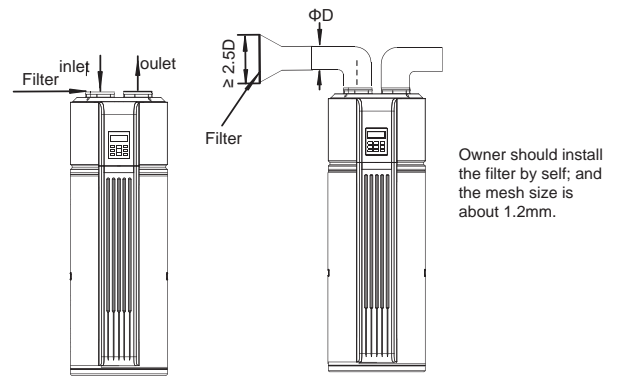

Fig.3-11 HWHM-TDF190/1.5-H31
- 5) Filter installing at the unit inlet. In terms of the unit with duct, filter in there must be put on the position of duct inlet. (Fig.3-11/3-12)